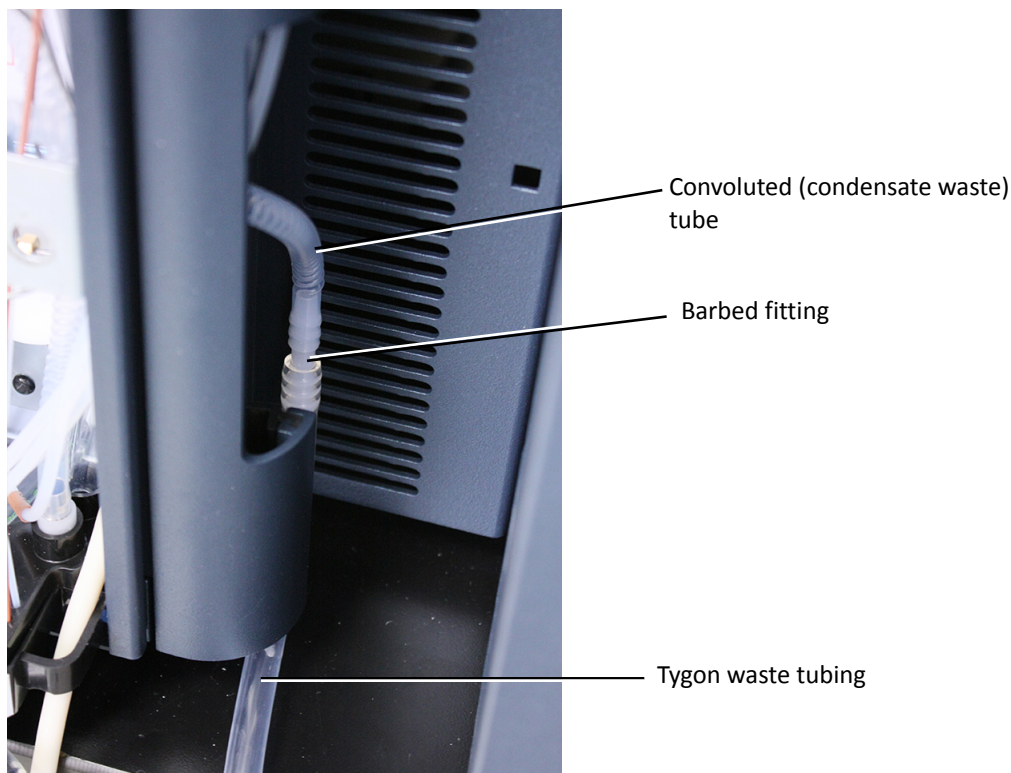

Figure 16 - Connecting the tubing to the barbed fitting
4. Route the open end of the convoluted (condensate waste) tubing through the right side opening of the QSM-R, and then connect it to a barbed fitting. See Figure 16.
5. Measure and pre-cut a section of Tygon tubing that will connect the barbed fitting (Figure 16) to a dedicated condensate waste container.
6. Connect the pre-cut Tygon tubing to the open end of the barbed fitting (Figure 16), and then on to the condensate waste container.